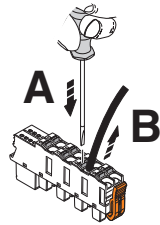

Fig. 8-9
- To remove a cable from the terminal point, press on the spring lever using a suitable tool (e.g., bladed screwdriver with a blade width of 2.5 mm). This opens the leg spring connection of the relevant terminal point (Fig. 8-9, A).
- Remove the conductor (Fig. 8-9, B).